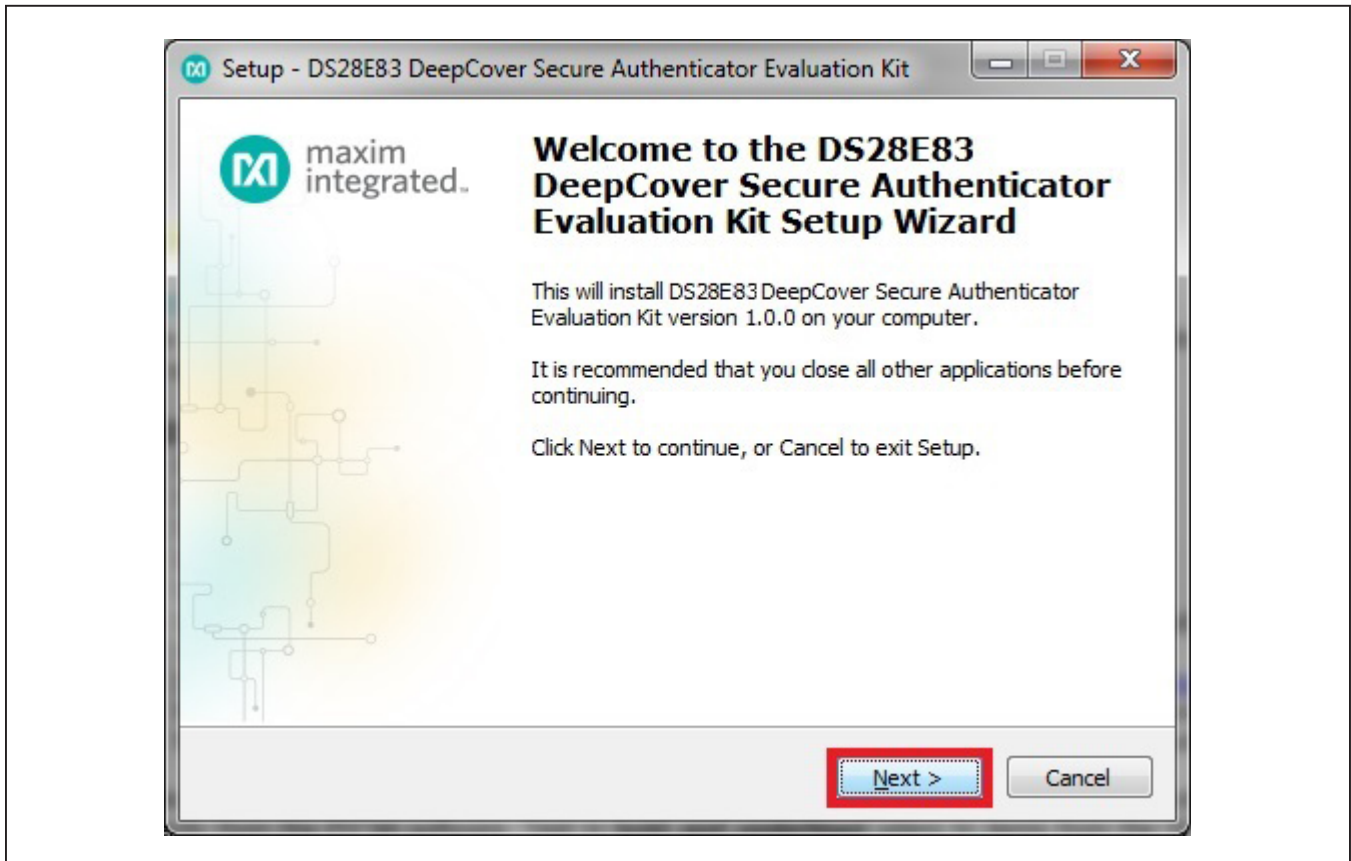

Figure 2. DS28E83 Setup Wizard
3) The setup wizard opens; click on **Next**, as shown in **Figure 2**.